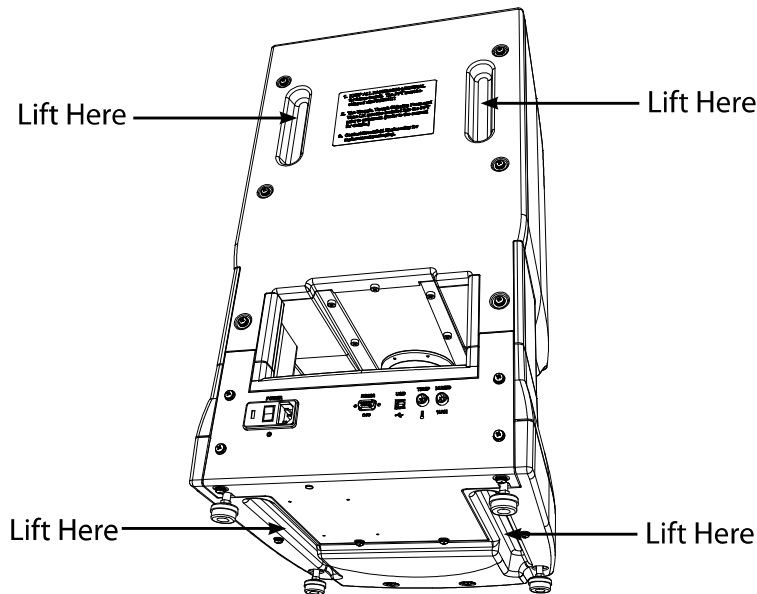

Figure I-4: Back View of Hand Hold locations
7. Hand Hold locations are located on the bottom and the back of the PFT. (See Figure I-4)